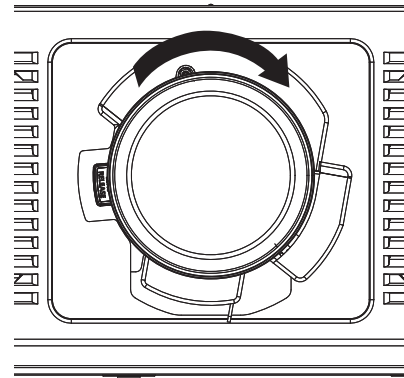

Fig. 3
- 3) **Turn the projection lens clockwise until it clicks. (Fig. 3)**